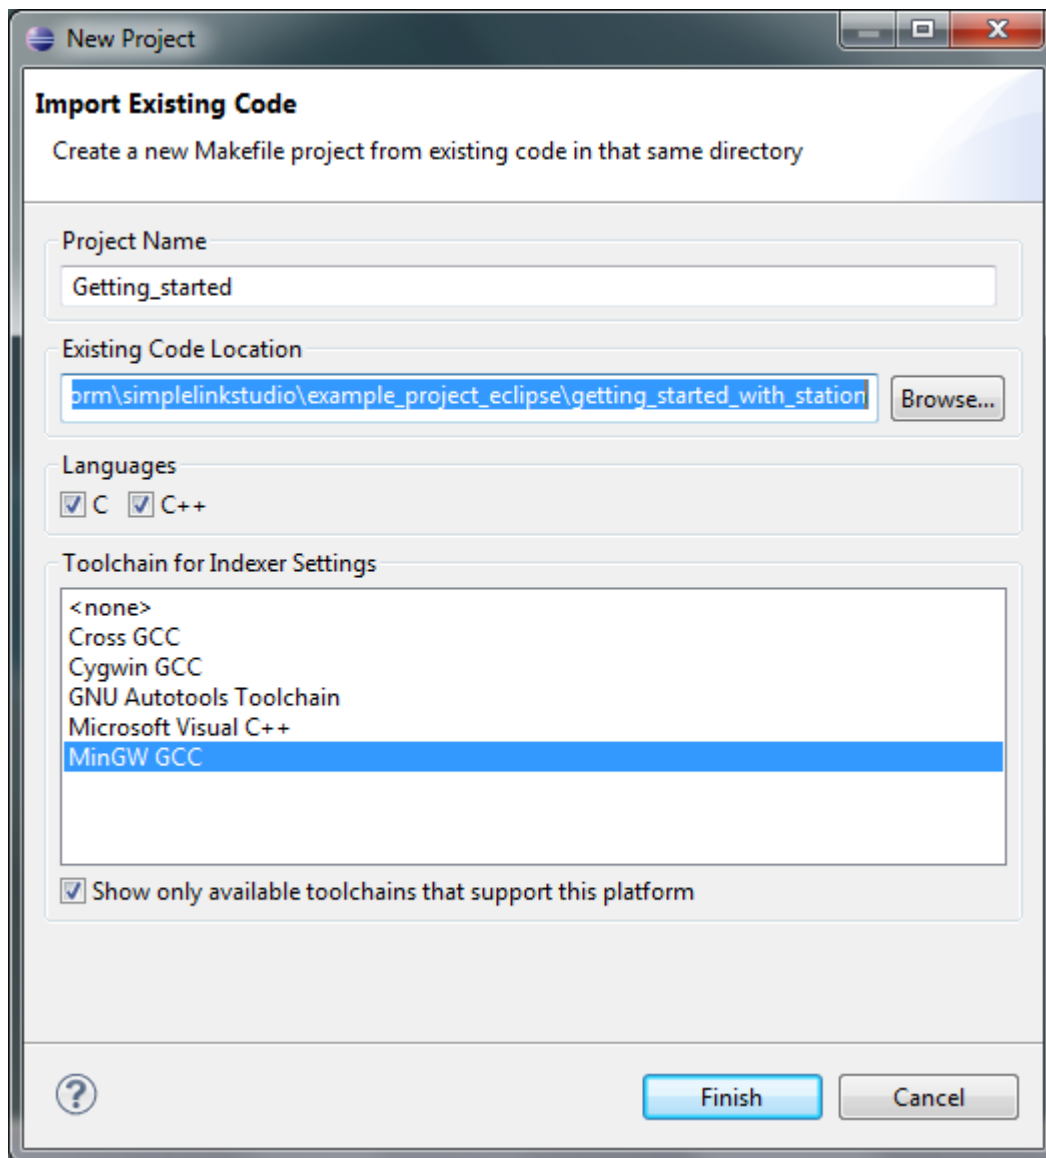

Figure 6. Import Existing Code
10. For Toolchain for Indexer Settings, choose “MinGW GCC” as shown in Figure 6.